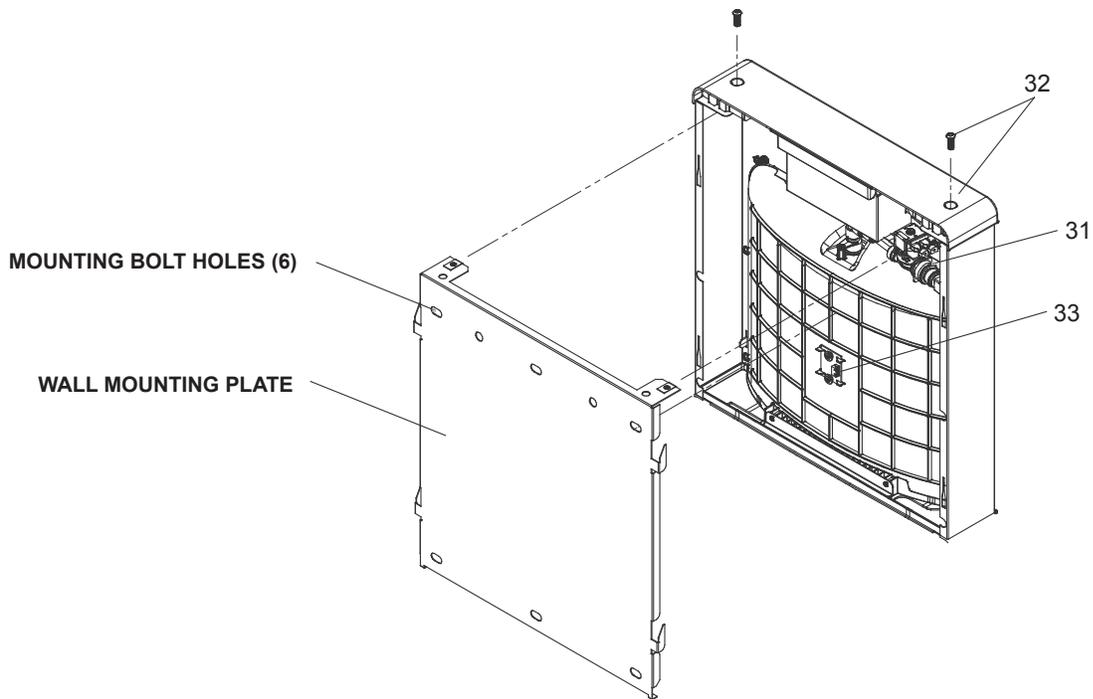

Fig. 8
- 8) Remove two (2) mounting screws with 5/32" Allen wrench holding bottle filler to wall mounting plate (See Fig.8, Pg. 6). Note do not discard mounting screws, they will be needed to secure bottle filler to wall mounting plate.
- 9) Remove wall mounting plate from Bottle Filler (see Fig 8, Pg. 6). Place wall mounting plate against wall on top of basin. Center the wall mounting plate side to side with the basin. Mark the six (6) mounting holes with a pencil. Place tape over wiring harness connection on top of cooler to prevent debris from falling into Connection.
- 11) Install wall mounting plate to wall using six (6) 7/16" obround mounting holes (mounting bolts not included) (See Fig.8, Pg. 6). Use appropriate fasteners for your wall type.
- 14) Place bottle filler on four (4) hooks on the mounting plate installed on wall. Make sure round boss in gasket fits in hole of basin. (See Fig. 8, Pg. 6).
- 18) Reinstall two mounting screws from first step (See Fig. 8, Pg. 6). Caution, do not over tighten screws.